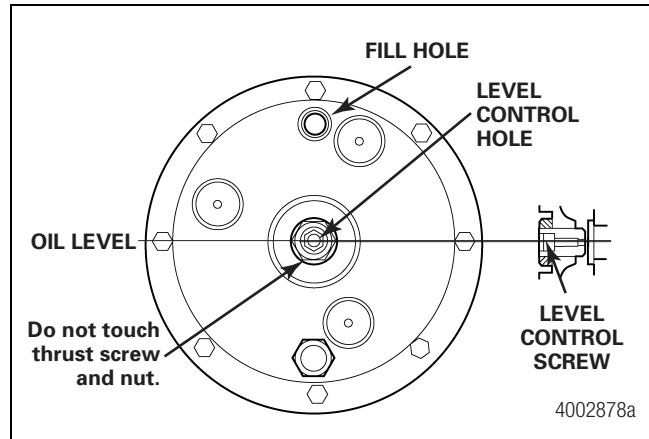

Figure 2.36
- **Revised design wheel ends:** Rotate the wheel end until the fill hole is at the TOP. Remove the oil level capscrew and copper washer located in the center of the thrust screw. Do not remove the thrust screw and lock nut. Fill until oil comes out of the level hole in the center of the wheel end. Install the copper washer and oil level capscrew. Tighten the capscrew to 8 lb-ft (11 N•m). Figure 2.36.